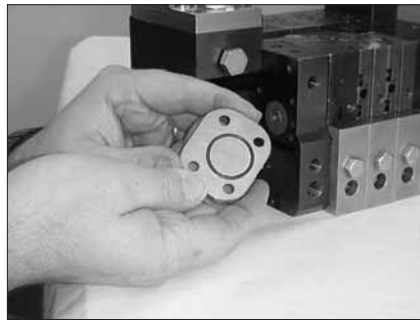

Figure 7-100 Installing the pump shaft end cap
5. See Figure 7-100. Replace the pump shaft end cap O-ring; then use a 5-mm hex wrench to install the pump shaft end cap. Tighten the bolts to 10–12 N•m (89–106 in.-lb).